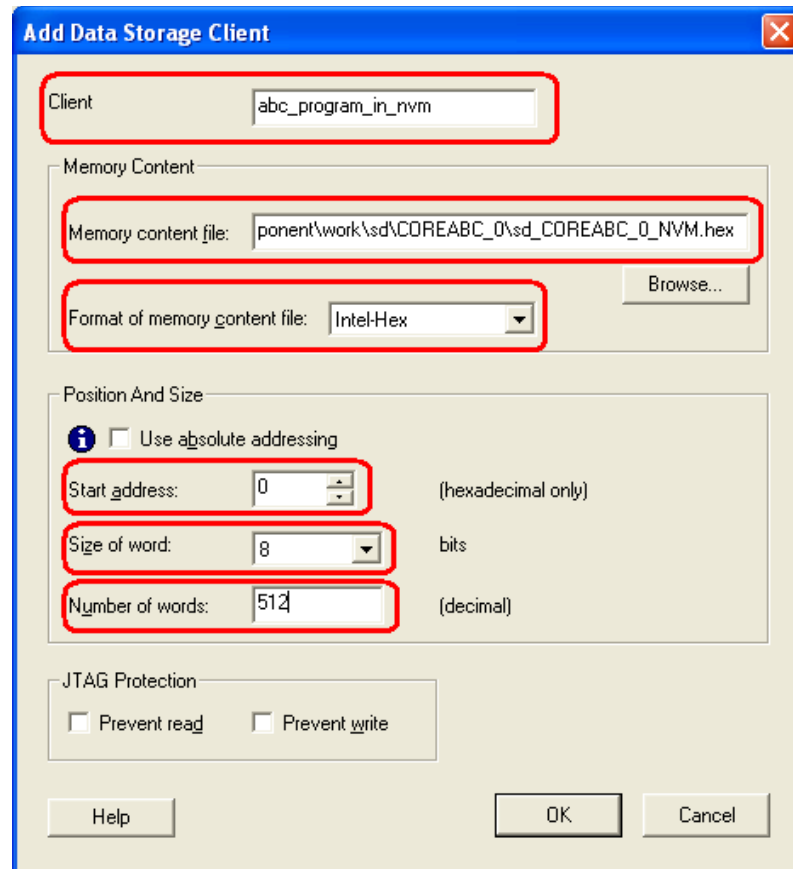

Figure 7-13 • Configure Data Storage Client
7. Configure the Data Storage Client according to the details displayed in the CoreABC.log file. In particular, paste the NVM memory image file name copied earlier into the Memory content file field and enter a Client name. Configure the **Start address**, **Size of word**, and **Number of words** options (Figure 7-13).